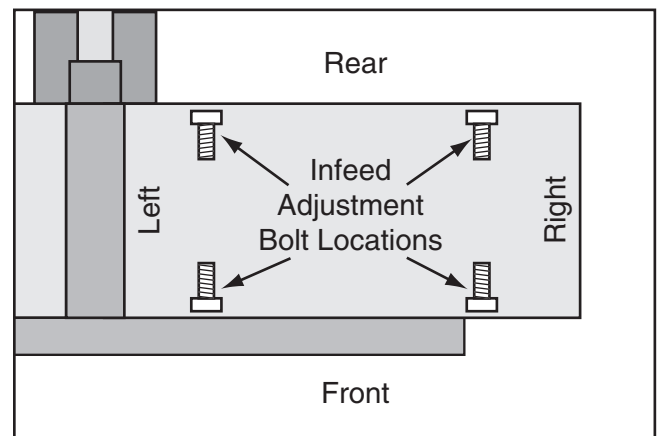

Figure 56. Locations of the infeed table adjustment bolts.
- Use the same process you performed in **Step 5** on **Page 37** to raise or lower the left or right end of the infeed table to eliminate the gaps. Adjust the adjustment bolts equally on each side for the targeted end of the table, one after the other, in very small increments (see **Figure 56**).